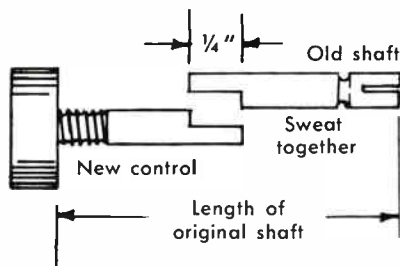

Fig. 1
1. Saw off the shaft of the old control 1/2" or more behind the knurled portion. Saw off the shaft of the new control 1/2" longer than the difference between the necessary final length and the length of the piece sawed off the old shaft. Accurately file a flat area 1/2" long down to the center of each shaft and sweat together with solder or silver solder, as shown in Fig. 1.